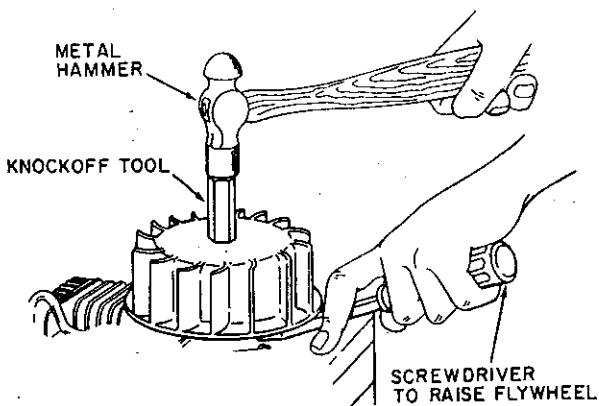

Figure 12
- (1) Remove flywheel nut and starter cup. Turn correct knockoff tools onto crankshaft, to within 1/16 inch (1 mm) of flywheel. Hold flywheel firmly and rap top of knockoff sharply with a hammer to jar flywheel loose. Remove knockoff and flywheel. (See Figure 12.)